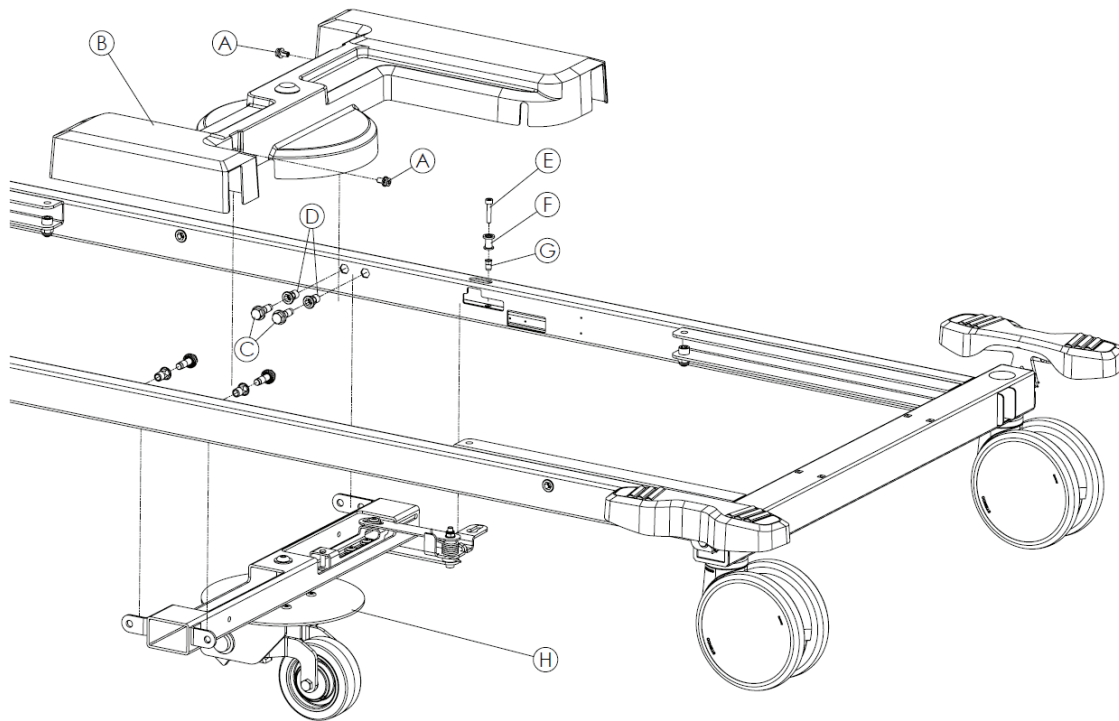

Figure 16 – Fifth wheel
4. Using a T25 Torx wrench, remove the cover screws (A). Remove the hood (B). Discard the cover screws (Figure 16).
5. Using an M5 Allen hex wrench, remove the bolt (E) and transfer plastic (F) from inside of the base frame. Discard the bolt and transfer plastic.
6. Using a 3/8" drive ratchet and 13 mm socket, remove the nuts (C) from inside of the base frame. Discard the nuts.
8. Remove and discard the fifth wheel assembly (H).